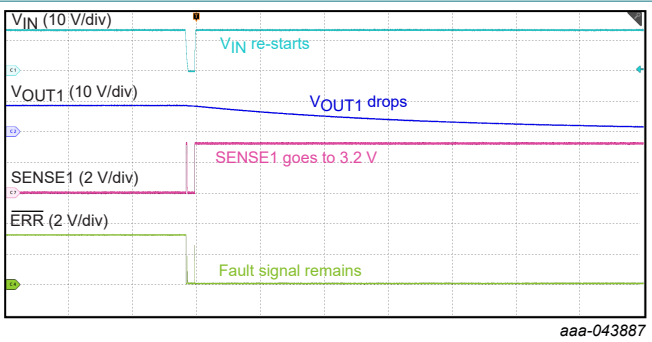

Fig. 27. Case 2: big output capacitor (latch)
- Latch behavior: The device detects reverse current, disables the output, and latches off. SENSEx and  $\overline{\text{ERR}}$  maintain fault indications until EN or  $V_{IN}$  is toggled. Refer to Fig. 27 for more information.